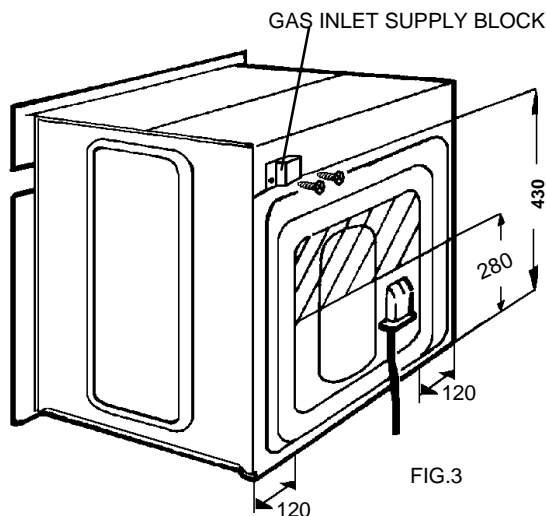

FIG.3
- 6 If the gas supply bayonet and wall fixing bracket are to be located behind the appliance it must be located in the shaded area as indicated in Fig.3.
- 7 Connect flexible hose to the gas inlet supply block see Fig.3 . The hose should be long enough to allow the appliance to be withdrawn from the cabinet.
- iii) Remove the two screws on the gas inlet block Fig.3.